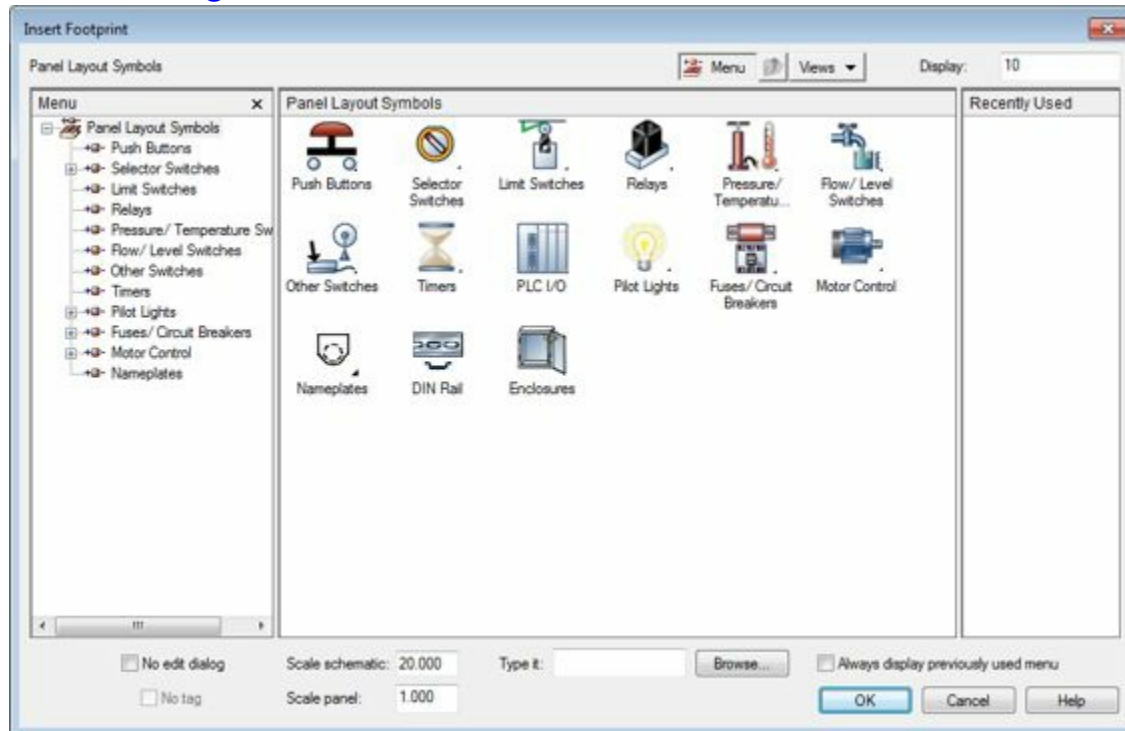

Figure-24. Insert Footprint dialog box
- Click on the **OK** button from the dialog box. The **Insert Footprint** dialog box will be displayed; refer to Figure-24.